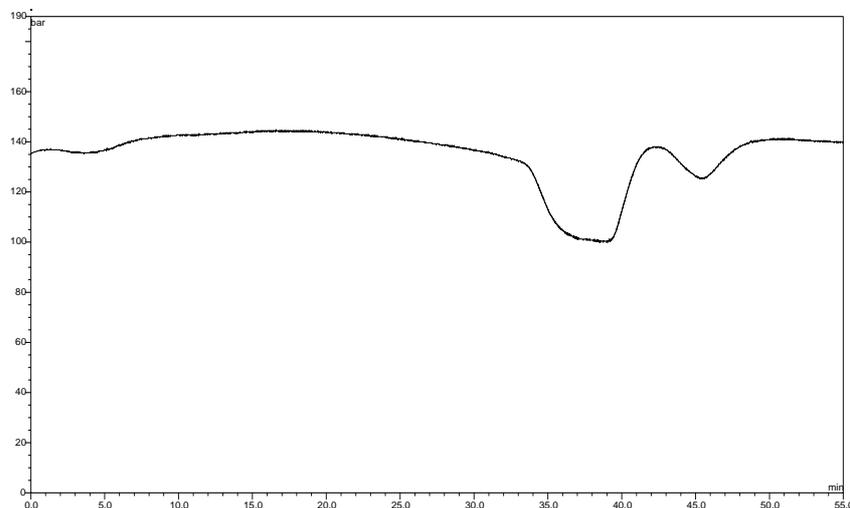

FIGURE 3-10. Standard System Test (Cap LC) – Pressure Profile
- f) The column pressure profile (FIGURE 3-10) should not contain any spikes. The column pressure under initial conditions (100% Solvent A) should be between 8 to 12 MPa (110–150 bar, 1595-2175 PSI) and the maximum pulsation should not exceed 0.2 MPa (2 bar, 29 PSI).